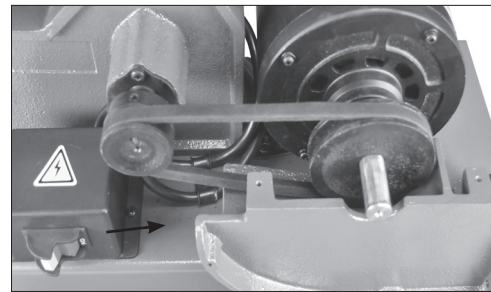

FIG. 3
7. The large Belt Pulley (#42) is on the motor arbor and the smaller Pulley (#87) is on the arbor that extends from the frame to drive the sanding belt. Slip the V-Belt (#38) onto the pulleys. FIG. 3.